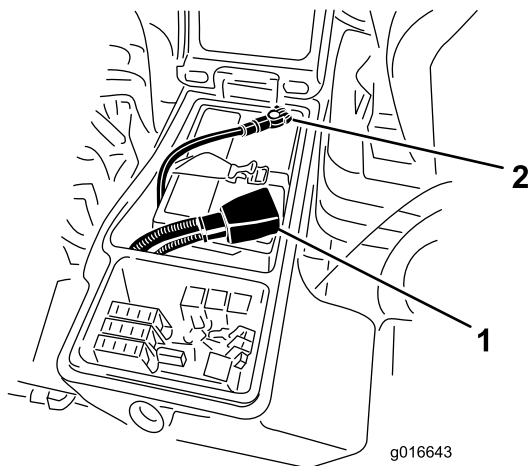

Figure 62
4. Install the positive cable (red) to the positive (+) terminal and the negative cable (black) to the negative (-) terminal of the battery (Figure 62). Secure cables to posts with capscrews and nuts. Make sure that the positive (+) terminal is all of the way onto the post and the cable is positioned snug to the battery. The cable must not contact the battery cover. Slide the rubber boot over the positive terminal to prevent a possible short from occurring.